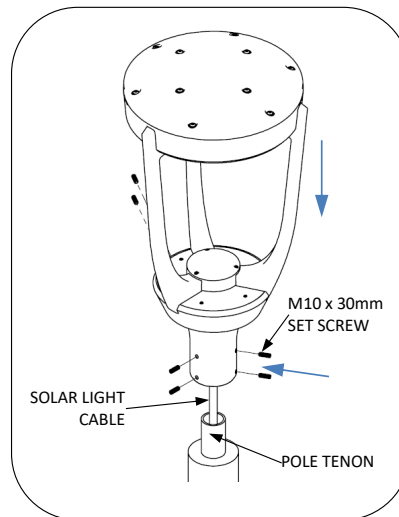

Fig. 3 - Install luminaire and Route Light Cable
2. Using a 5mm hex key, install and tighten all 6 set screws to secure luminaire to tenon and level as required (refer to Fig. 3).